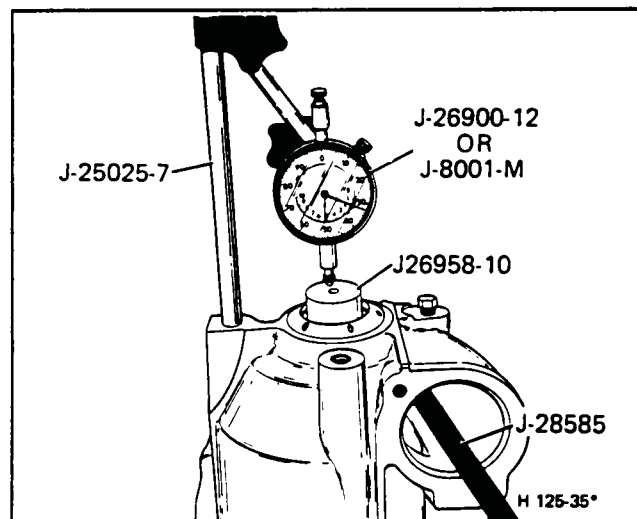

Figure 54 Final Drive End Play Selective Thrust Washer Measurement (680)
**Measure (Figures 54 and 55)**
3. Reading on the dial indicator should be 0.12-0.82 mm (0.005"-0.032") For correct washer selection, see Figure 54.